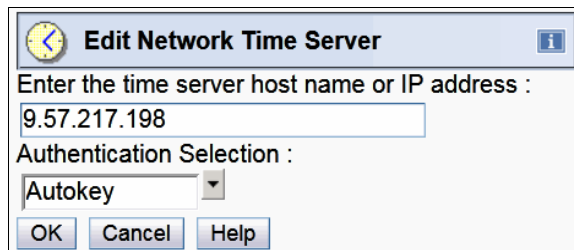

Figure 8-24 Edit Network Time Server for Autokey
In this example (see Figure 8-24), we modify the existing NTP server 9.57.217.198 to use Autokey configuration.
7. The Edit Network Time Server window opens (see Figure 8-24). Select **Autokey** under Authentication Selection. Then, click **OK**.